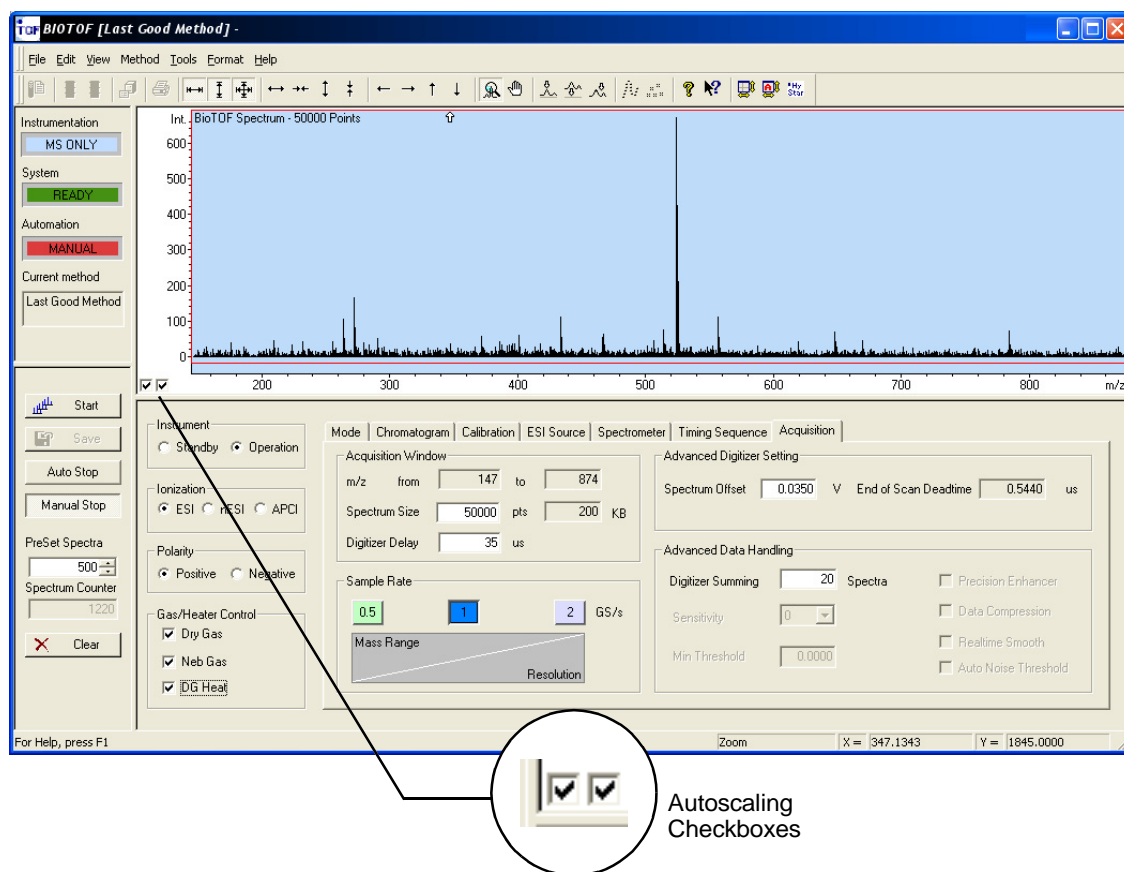

Figure 2-2 BioTOF Window and Autoscaling Checkboxes
- The **Spectra Display** plots the spectra captured by the system. There are a variety of user-selected formats. For example, the graph in Figure 2-2 shows the intensity of ion signals from the detector for each m/z value. The two checkboxes in the bottom left corner of the display control autoscaling for the vertical axis (left) and horizontal axis (right).
Figure 2-2 shows the location of the Autoscaling checkboxes.